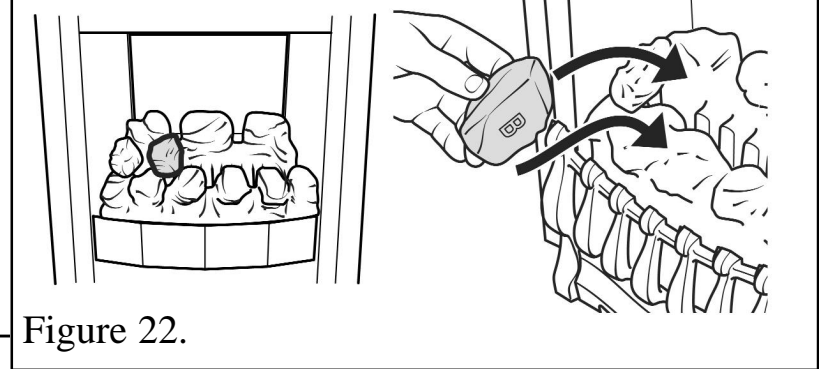

Figure 22.
4. Place a type “B” coal between the front and rear base coals as shown in figure 22. The letter “B” should be upright.